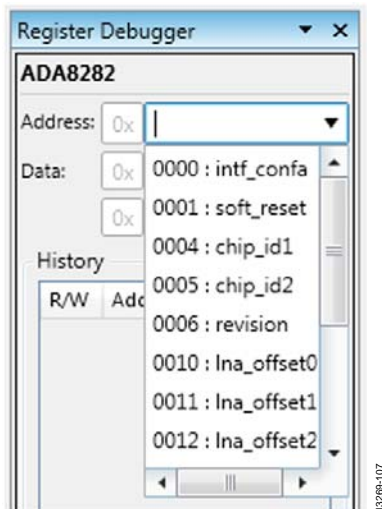

Figure 7. Register Debugger Drop-Down Menu
1. Select the address from the **Address** drop-down menu on the register debugger (see Figure 7).